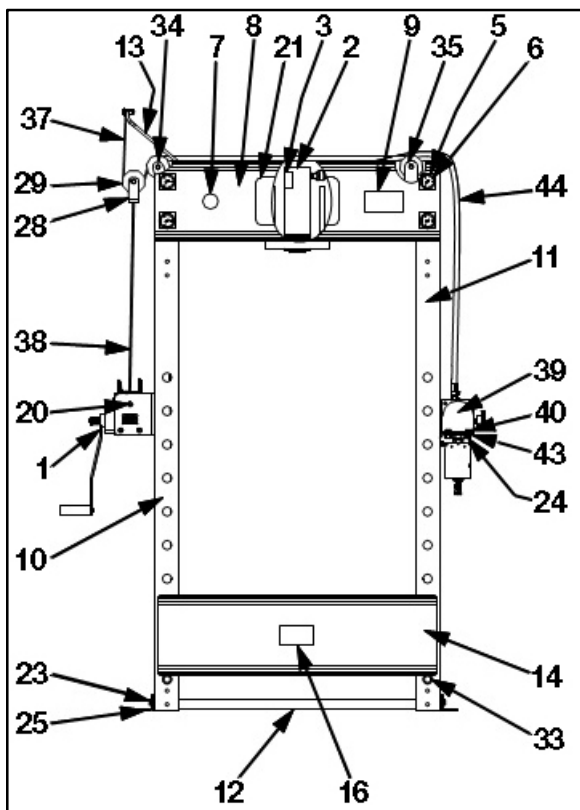

Fig. 1: Freestanding model component identification
1. With the Upper Bolster [item # 8] laying side down on blocks, install the Upright Frame Weldments [items #10 and # 11], as shown in Fig. 1, using (8) 1" X 3-1/4" A325 Cap screws [item #6], (8) 1" Washers [item #5], (8) 1" Lock Washers [item #4], and (8) 1" Nuts [item #30]. Do not fully tighten any of the Nuts [item #30] until instructed to do so in step 4. Make sure the Winch Bracket on the Left Hand Upright Frame Weldment [item #10] faces outward.